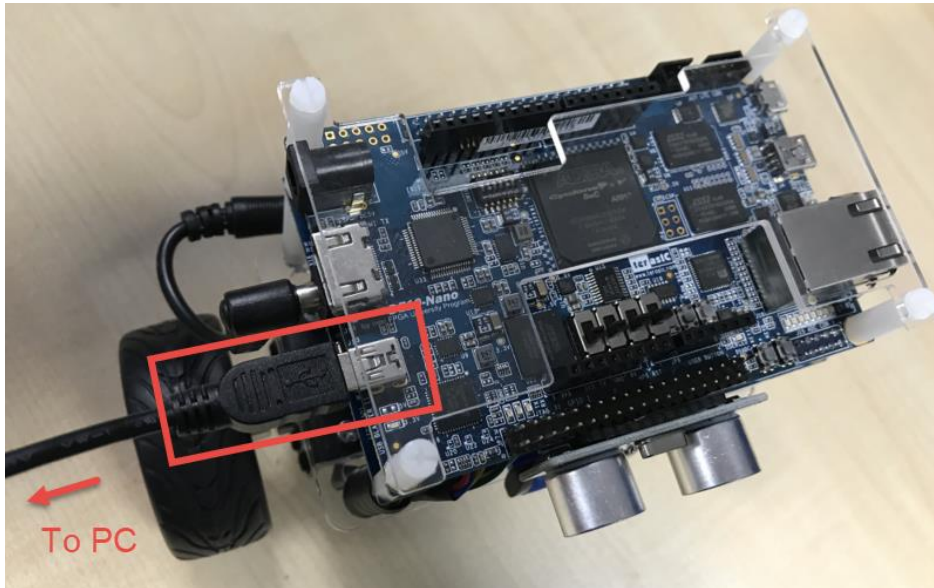

Figure 7-4 Connect the robot to PC via USB Mini Cable
- As shown in Figure 7-4, Connect a USB cable to the USB Blaster II connector on the robot and the PC.